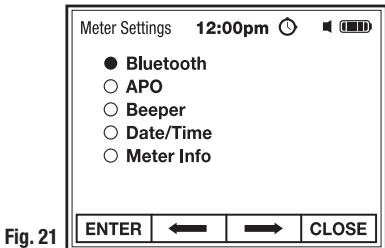

Fig. 21
- Use the soft keys to select and ENTER desired setting (Fig. 21).
- From Meter Settings, select and ENTER Bluetooth (Fig. 21).
1. From Meter Settings, select and ENTER APO (Fig. 21).
1. From Meter Settings, select and ENTER Beeper (Fig. 21).
- From Meter Settings, select and ENTER Date/Time (Fig. 21).